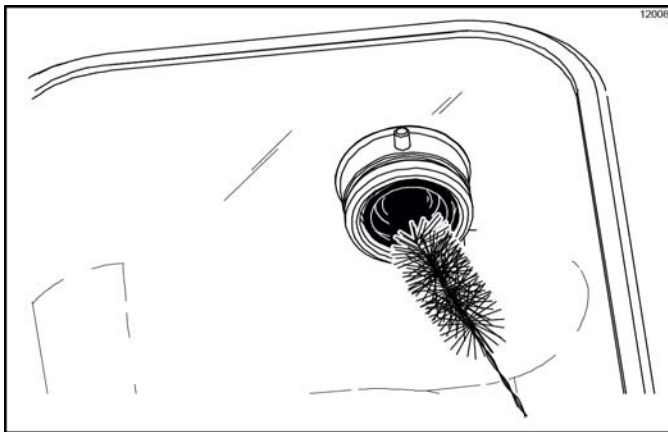

Figure 6-126
- Using the black brush, clean the drive hub openings in the rear wall of the mix hoppers. (See Figure 6-126.)